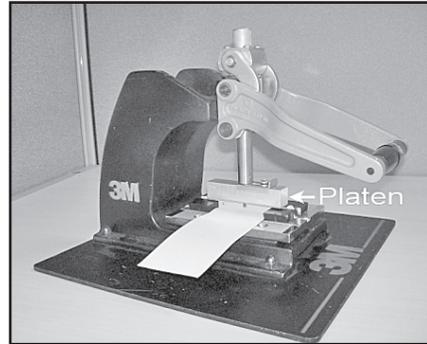

Figure 8
- 4.5 Lower the PRESS HANDLE firmly to complete the Cable/Connector Assembly. (Figure 8)